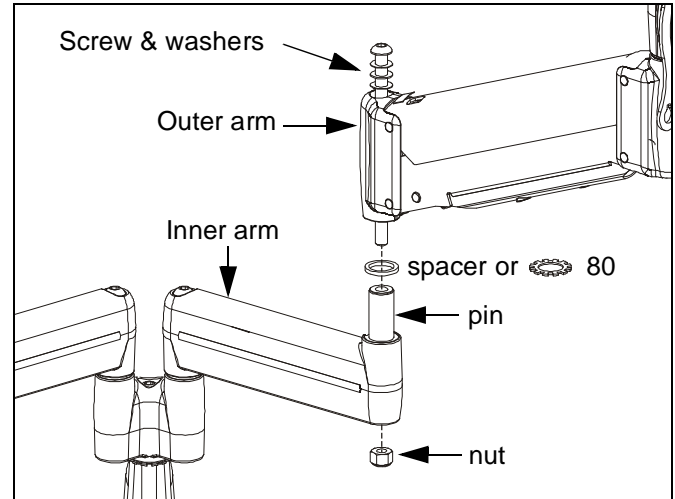

Figure 20: Multi-Dual Arm Modification
1. Using 3/16" hex key, loosen screw until nut can be removed (See Figure 20). Retain nut. Screw and washers may remain in outer arm.
3. Remove spacer from pin (See Figure 20).
4. Install washer (80) on pin (See Figure 20).
5. Re-install outer arm (with screw and washers) on pin (See Figure 20).
6. Insert and hold nut in lower bore of inner arm (See Figure 20).
7. Tighten screw as required using 3/16" hex key (See Figure 20).
CAUTION: If washer (80) has been used to assemble KCY-210/-220 arms, then forced movement of arms without loosening screw (30) will damage arm and/or Y-connector (See Figure 18)(See Figure 20).